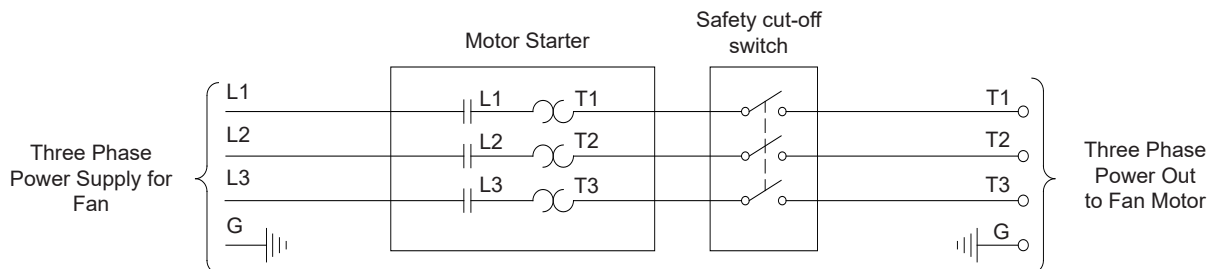

Figure 18B
**Three Phase Fans:** motor overload protection should be provided for each fan. A three-pole motor starter or slow blow motor fuses must be used. *See Figure 18B.*